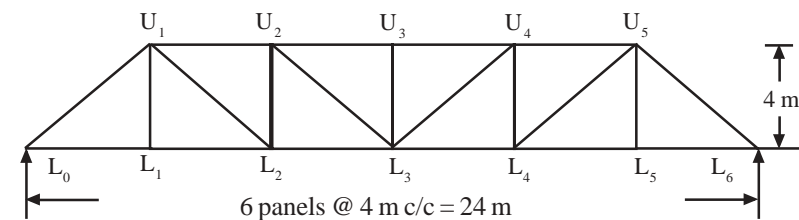

Fig. 4.1
- (b) An open web girder bridge consists of two Pratt trusses of the type shown in the Fig. 4.1. The span of the truss is 24 m c/c of bearings. The bridge supports an equivalent uniformly distributed live load of 185 kN per metre run. The dead load transmitted to each truss inclusive of self – weight is 16.5 kN/m. Design the members U₂L₃ and U₅L₄. Assume the impact factor to be 15%.